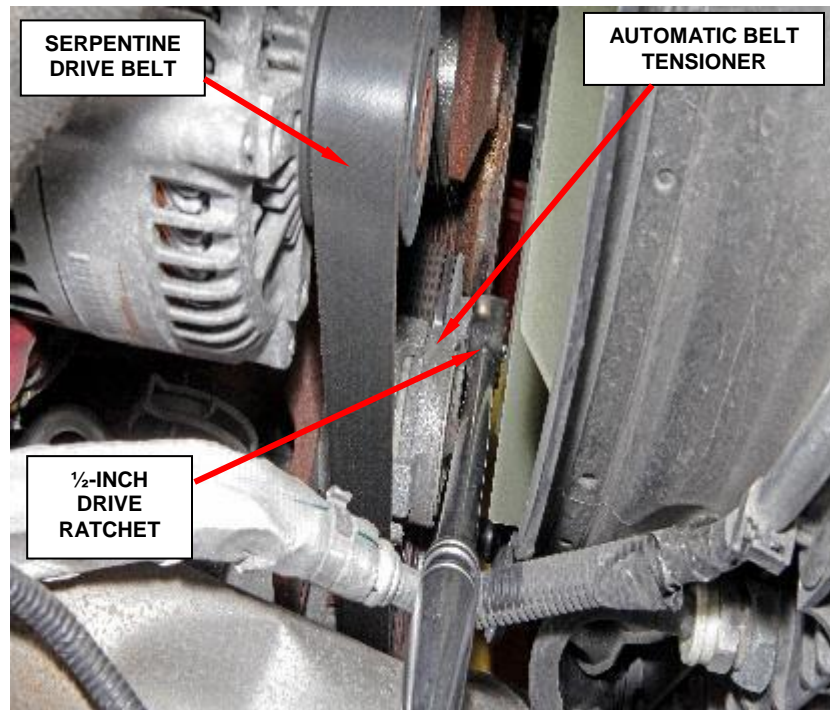

Figure 9 - Automatic Belt Tensioner
4. A 1/2-inch square hole is provided in the automatic belt tensioner. Attach a suitable tool into this hole and rotate the tensioner assembly clockwise (as viewed from front of the vehicle) until tension has been relieved from belt then remove the serpentine drive belt (Figure 9).